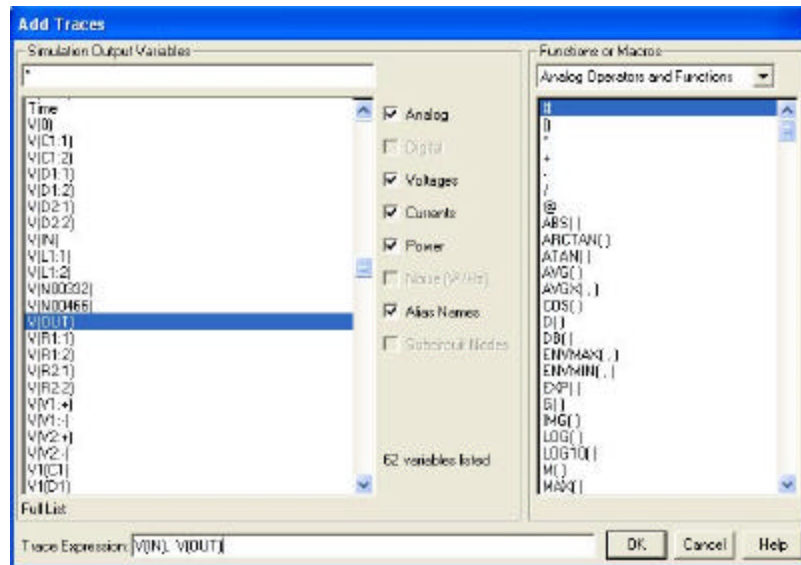

Figure 6 - Add Trace Dialog
- d) Click on the  button. Once the Add Trace dialog is open, find V(IN) and V(OUT). Multiple traces can be added (when separated by commas, as visible in Figure 6).